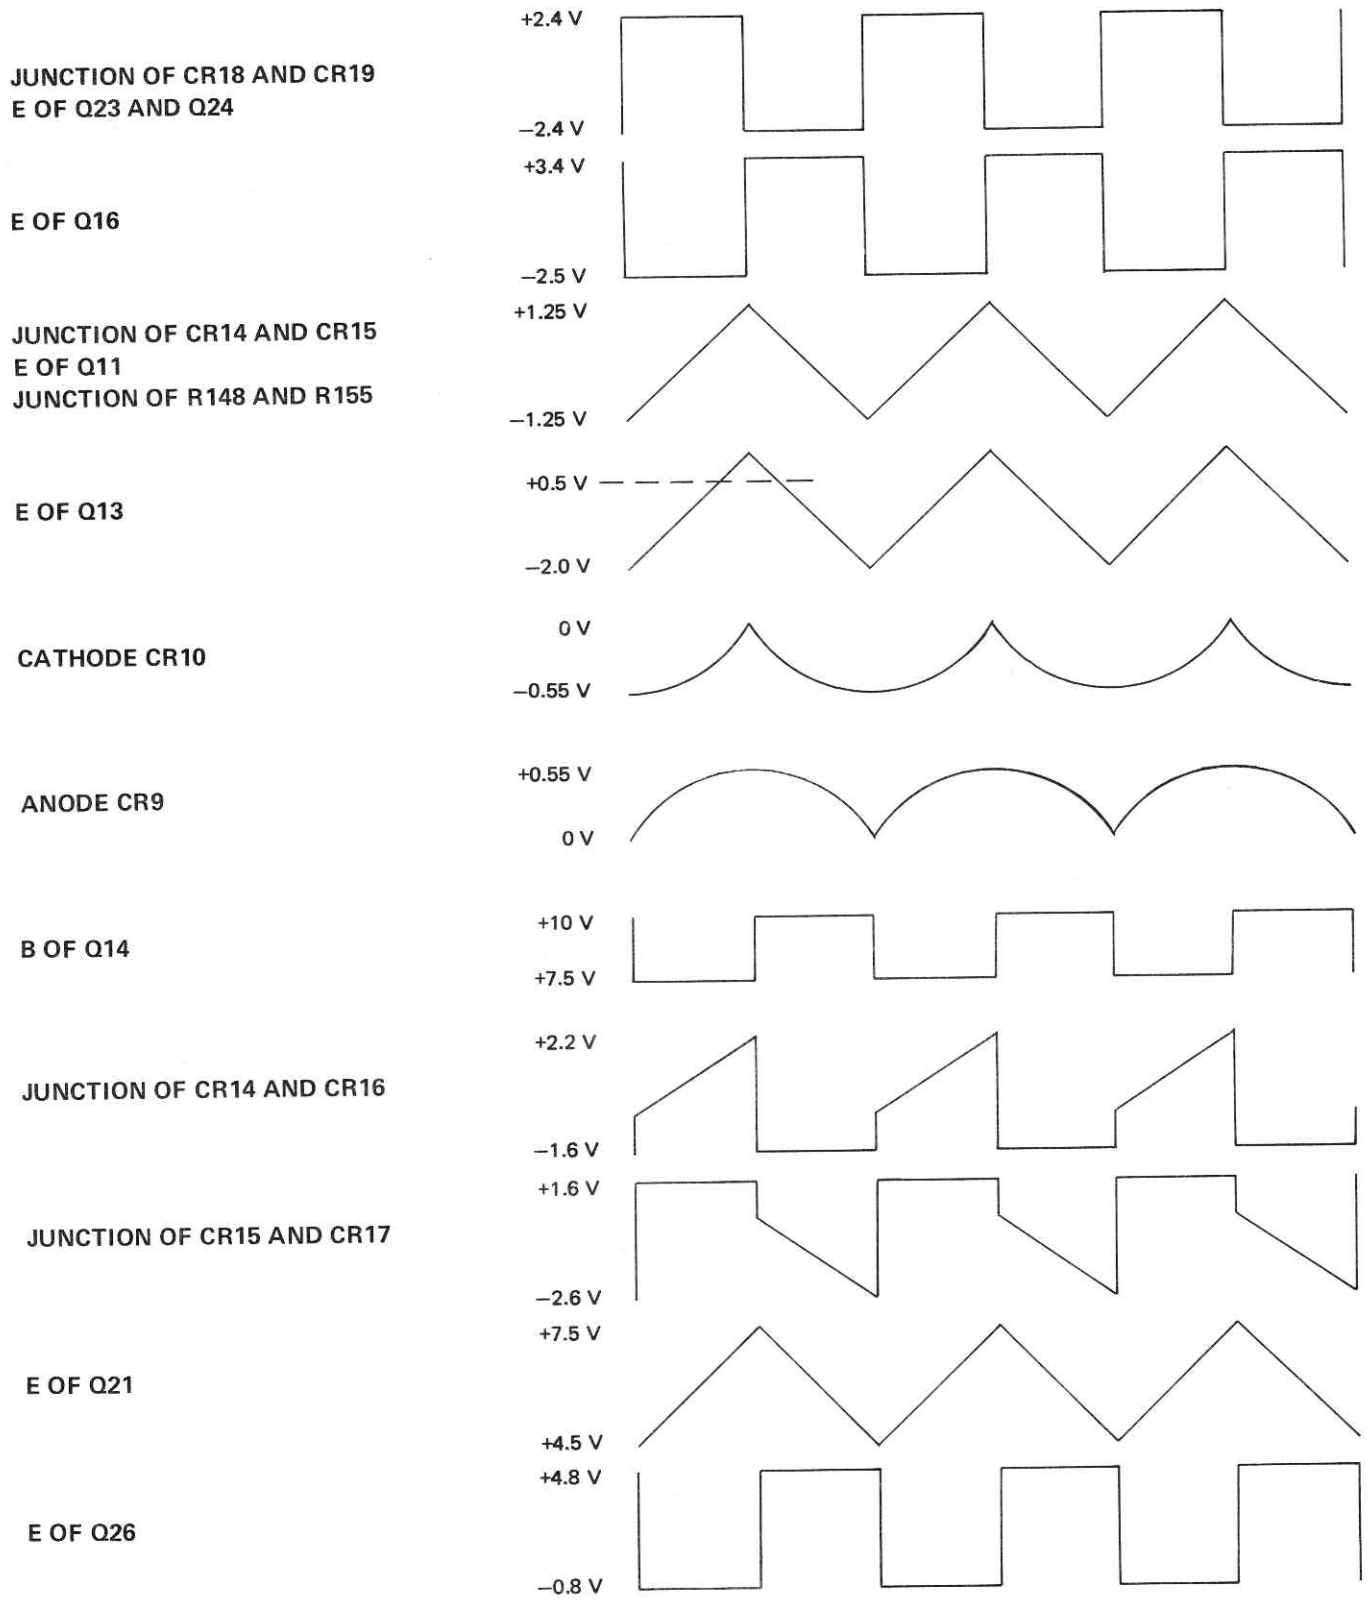

Figure 5-1. Key Waveforms of \sim Amplifier No. 1, Amplifier No. 2, Comparator and Hysteresis Switch
- c. Check for defective CR9 and CR10 (to check, set frequency to 3 kHz and compare waveform at the diode as shown in Figure 5-1).